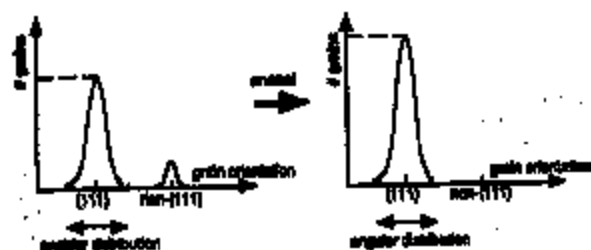

Fig. 6. Schematic representation of changes in the grains' orientations as a result of annealing and increased deposition temperature.
- ever, the (111) angular distributions (the diameter of the pole diagram) remained unchanged.
- Increasing the deposition temperature increased the (111) texture but exerted no significant effect on the (111) distribution.
- Pure Al films were more textured in (111) than the 0.4 W films deposited at the same temperature.
- There was no evidence of secondary texturing (no film texture other than (111)).
The physical interpretation of the observed change in (111) intensity and lack of change in (111) distribution as a result of annealing and increased deposition temperature is believed to be as follows. The distribution of grain orientations in these as-deposited metal films is believed to be mainly (111) grains with a small population of non-(111) grains. However, not all of the (111) grains were oriented perfectly parallel to the (111) pole, and there existed a finite distribution about the (111) pole. Upon annealing at 450 °C for 20 min, grain growth occurred, and the (111) grains grew at the expense of the non-(111) grains. The driving force for this process is the minimization of surface energy. However, the grains which deviated only slightly from the (111) pole remained unaffected, perhaps because the energy difference was not great enough to drive the grain growth process described above (see the schematic representation in Fig. 6).